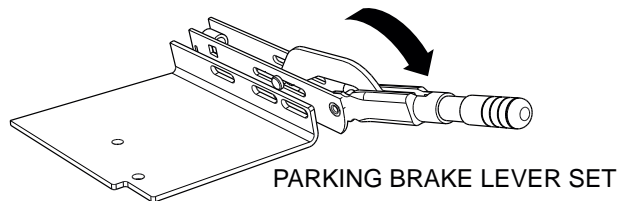

Figure 27. Parking Brake Set
2. Engage the parking brake (Figure 27).